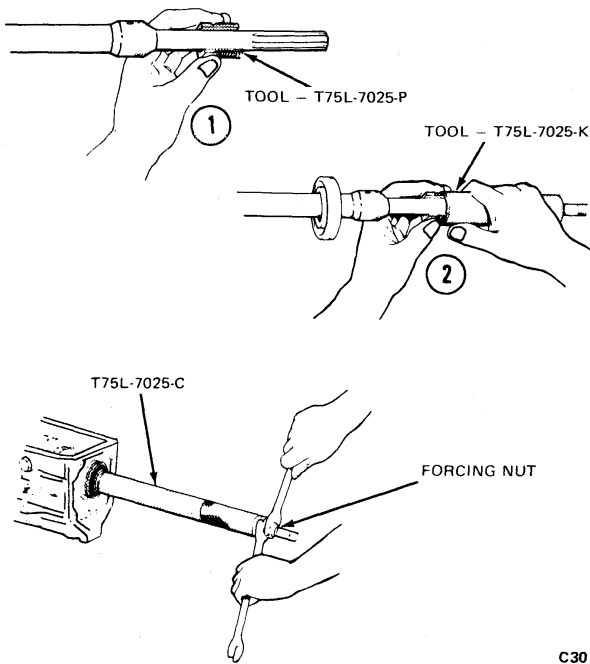

FIG. 16 Installing Output Shaft Bearing—Typical Transmission
35. Remove the dummy bearing from the output shaft. Assemble the special service tools to the output shaft as shown in Fig. 16. **Before pressing the bearing onto the output shaft, be sure that the output shaft bearing is aligned with the transmission case bore and that the countershaft is not interfering with the output shaft assembly.**